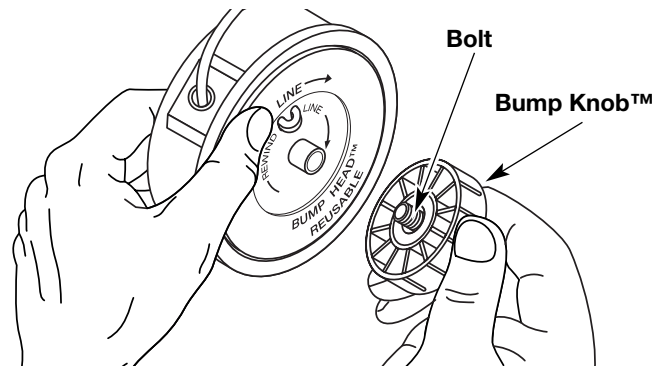

Fig. 15
1. Hold the outer spool with one hand and unscrew the Bump Knob™ counterclockwise (Fig. 15). Inspect the bolt inside the Bump Knob to make sure it moves freely. Replace the Bump Knob if damaged.
1. Hold the outer spool with one hand and unscrew the bump knob counterclockwise (Fig. 15). Inspect the bolt inside the bump knob to make sure it moves freely. Replace the bump knob if damaged.